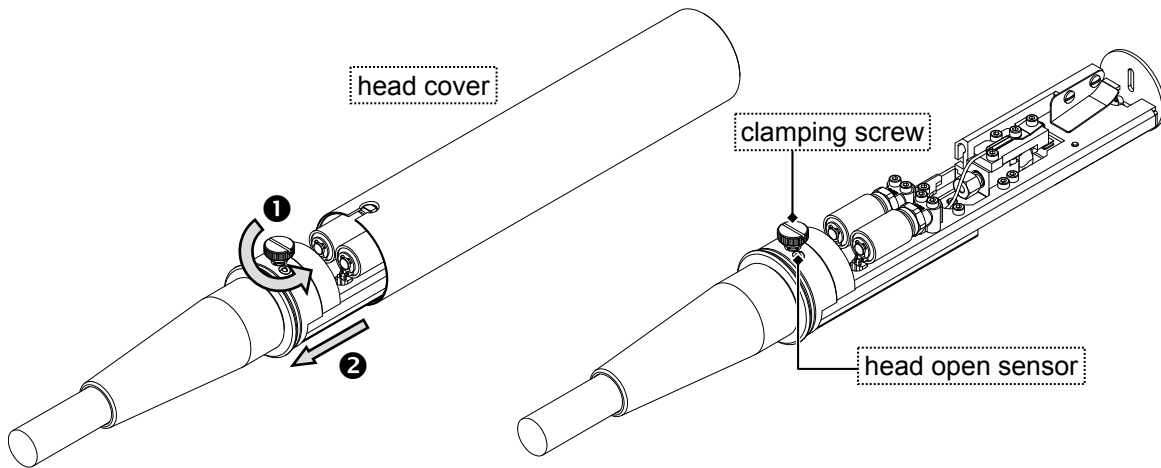

Fig. 5.3.1.1
- The print head is equipped with a sensor for detecting any removal of the cover (see Fig. 5.3.1.1). When the cover is removed, printing is suspended automatically and the printer moves to the **cover** mode. Printing cannot be restarted until the cover is re-installed.